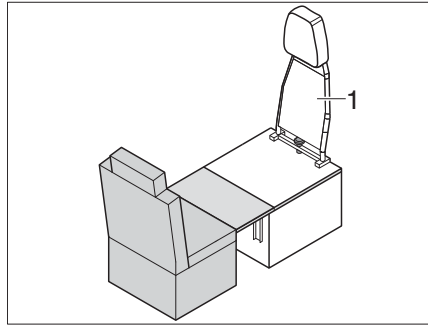

Fig. 192 Driving - sleeping conversion
- Remove the backrest (Fig. 192,1) from the individual seat (see Chapter 7.17.8).